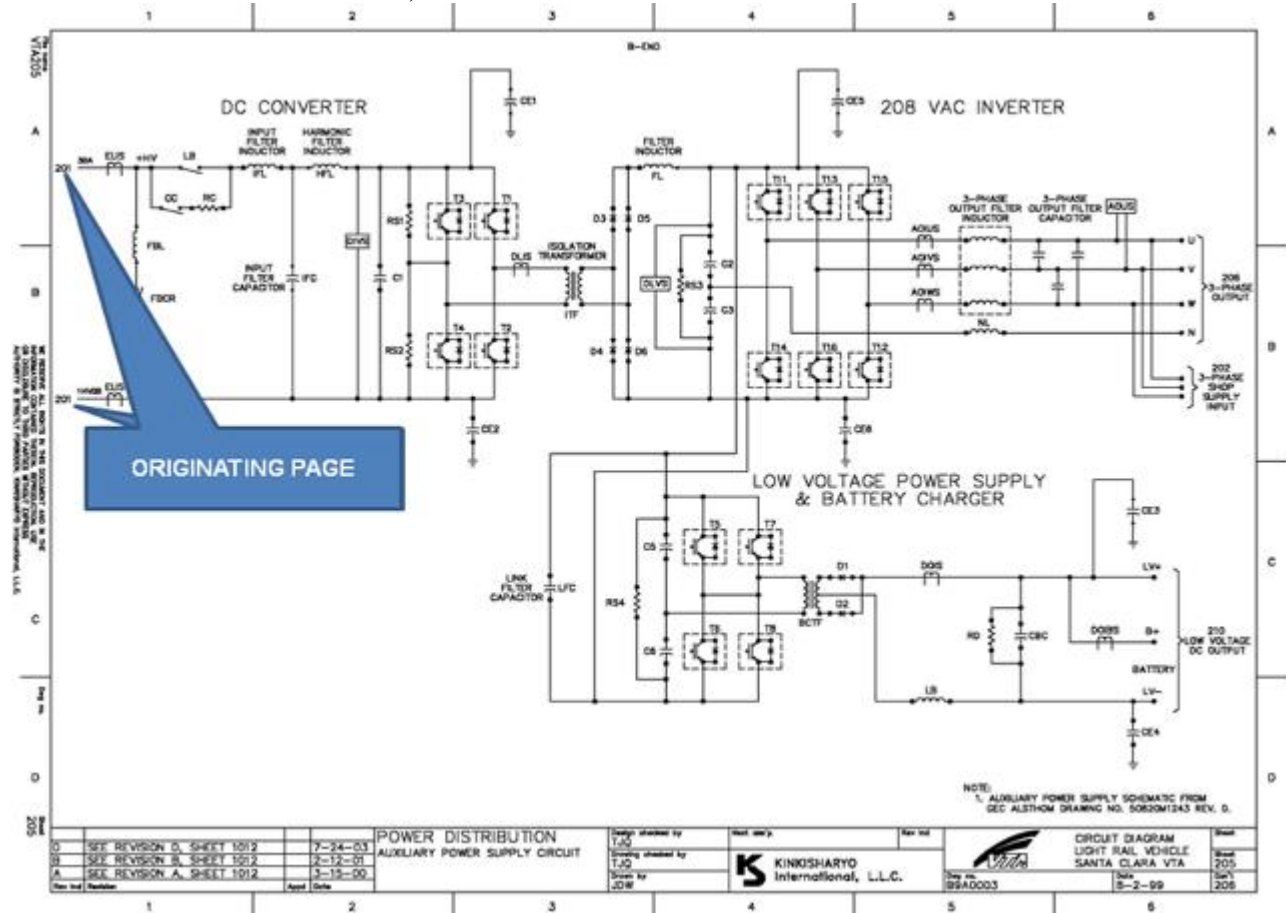

Figure 2.11 Auxiliary Power Books of Prints Sheet 206: Aux Power Supply. Courtesy of VTA
Now, let's take a look at one of the connecting sheets that are referenced, 206 AUX POWER SUPPLY (Figure 2.11). You will notice that on the right-hand side, there is a reference to the sheet we just looked at (201). In this case, sheet 201 is known as the **originating page**. You will also notice many other references that link to other pages (Ex: 208 VAC INVERTER, 210 LOW VOLTAGE POWER SUPPLY).